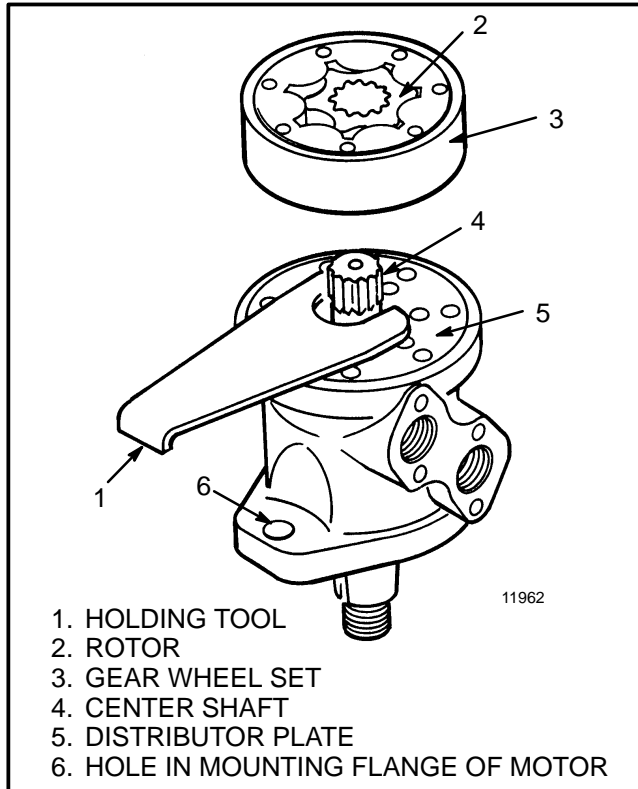

FIGURE 13. ASSEMBLY OF GEAR WHEEL SET
9. Install the center shaft into the motor housing and hold the end of the shaft. Make a tool of thin metal to fit under the splines of the center shaft and hold the shaft in position. See FIGURE 13.
10. Install the gear wheel set over the end of the center shaft. Use a thin coat of grease to hold the O-ring in position. Align the screw holes with the holes in the housing and distributor plate. Adjust the gear wheel (rotor) so that a line between the tops of two opposite teeth is parallel with the holes in the mounting flange of the motor (correct direction of rotation). See FIGURE 13.